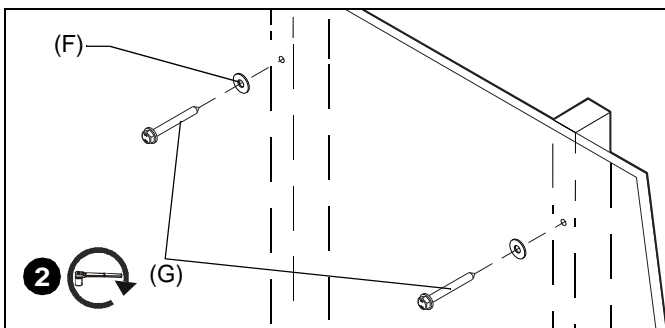

Figure 4
2. Use one 5/16" x 3-1/2" hex head lag bolt (G) through one 5/16" washer (F), the strut channel (B) [landscape installation ONLY], the PSMO2085 and into pilot hole. (See Figure 4)